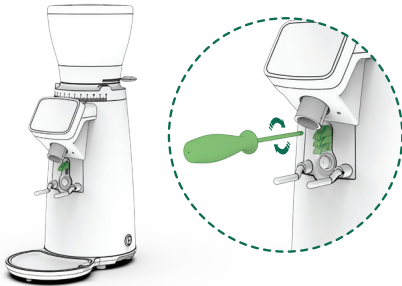

Fig. 4
1. Loosen the screw on the upper support (10) by using a #2 Philips screw driver.
3. Tighten the screw with the #2 Philips screw driver (Fig. 4).